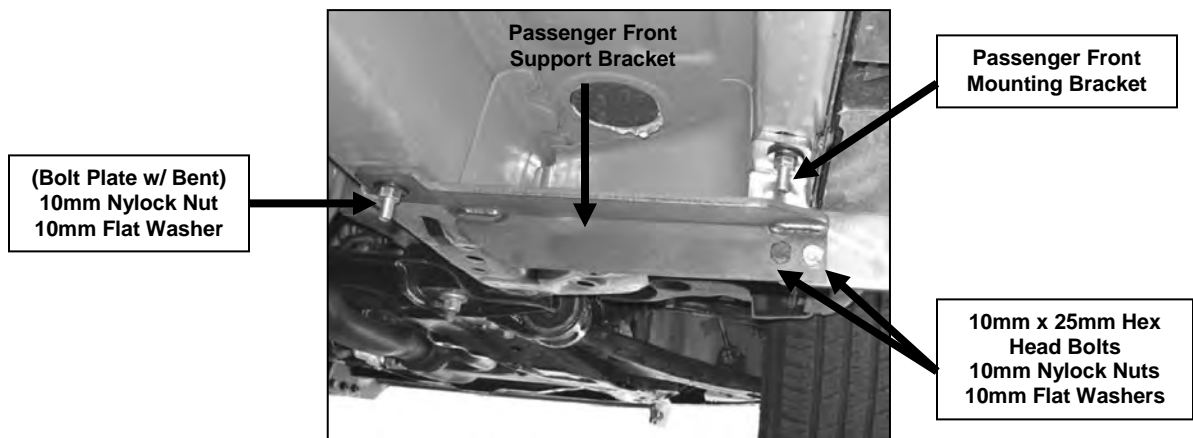

Figure 4
- Locate passenger side front Support Bracket. Partially hang passenger Support Bracket through previously inserted Bolt Plate and into position by threading (1) 10mm Nylock Nut and (1) 10mm Flat Washer (**Figure 4**).
- Attach opposite side of passenger Support Bracket to Mounting Bracket by using the included (2) 10mm x 25mm Hex Head Bolts, (2) 10mm Nylock Nuts, and (4) 10mm Flat Washers (**Figure 4**). Do not tighten at this time.